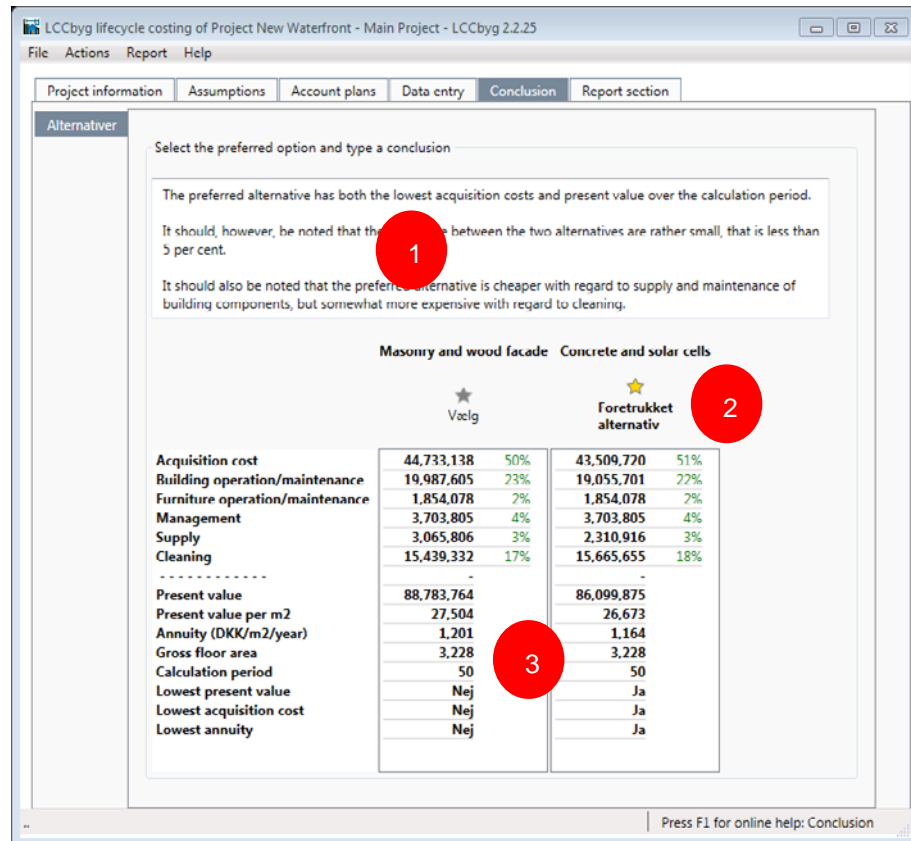

Figure 41. Overview of 'Conclusion'.
- 3. A summary of the calculations in table form (Figure 41).